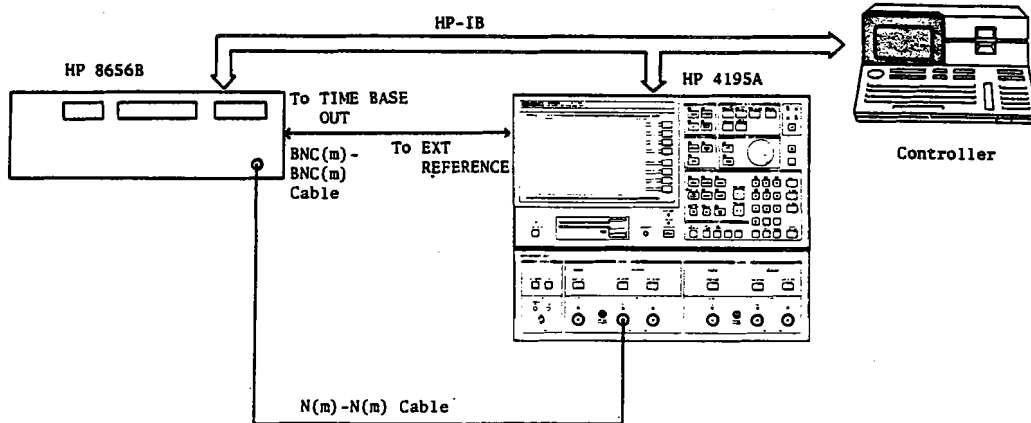

Figure 3-140. Receiver BPF Tuning Voltage Calibration Setup
2. Connect **INPUT R1** to the Signal Generator **RF OUTPUT** using the N(m)-N(m) cable, as shown in Figure 3-140.
3. Connect the Control Unit rear panel **EXT REFERENCE** to the Signal Generator **TIME BASE OUTPUT** using a BNC(m)-BNC(m) cable, as shown in Figure 3-140.